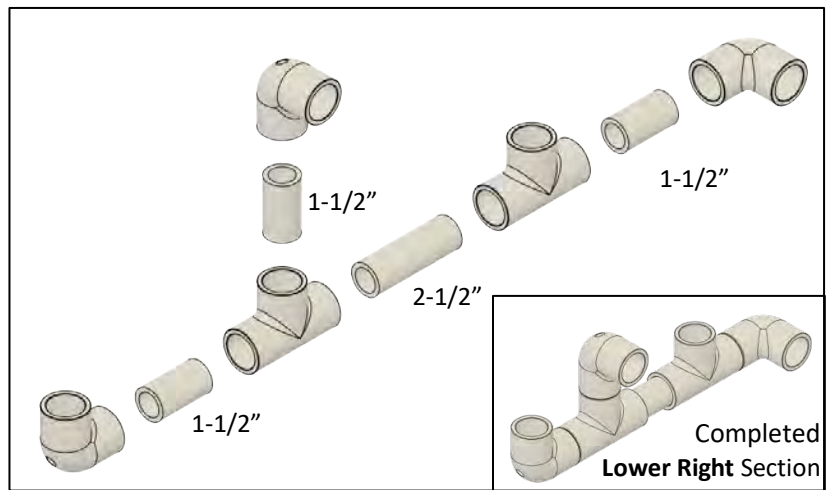
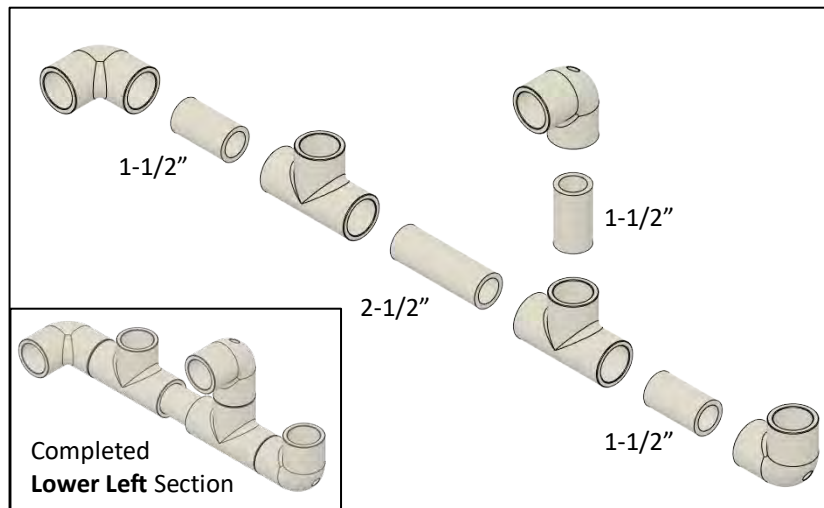

Figure 18
Figure 19
- ❑ Assemble the lower right section (Figure 18) and the lower left section (Figure 19). These sections are identical except for the orientation of the upper and lower cross support elbows.